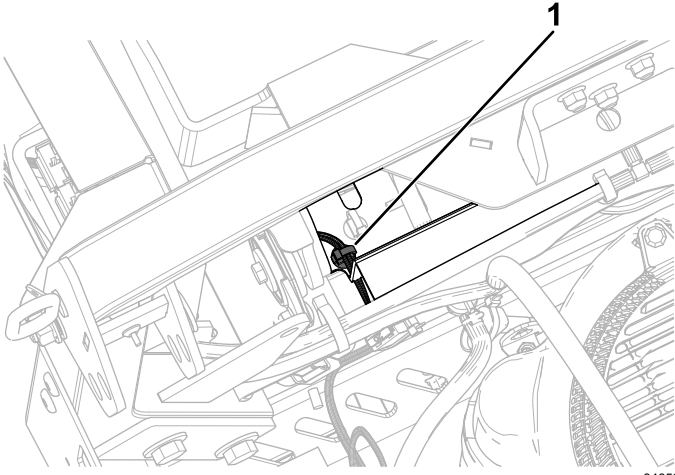

Figure 13
3. Install the second push-mount fastener into the rear fuel-tank bracket (Figure 13).